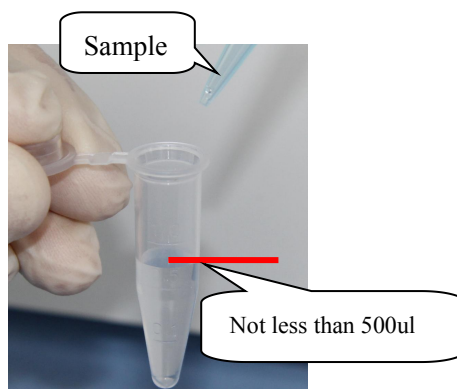
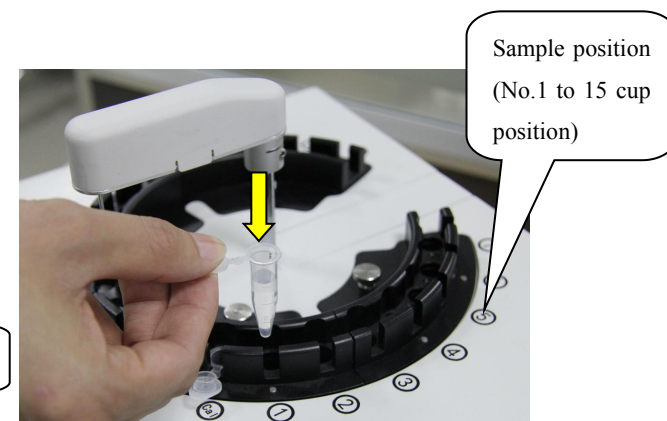

Fig.16
Fig.17
**Place the sample** Centrifuge the sample and take the supernatant into the EP tube as shown in Fig.16 and Fig.17. **(If the sample pH is in the range of 5-8, the supernatant can be directly centrifuged for testing; if it is not in this pH range, it must be adjusted to this pH range before testing)**